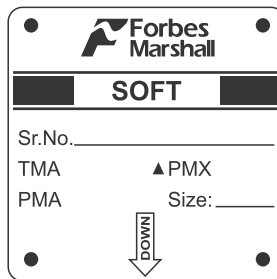

Figure 4: Single Orifice Float trap name plate
5. Installation Guidelines: (Refer to Figure 4 and 5)